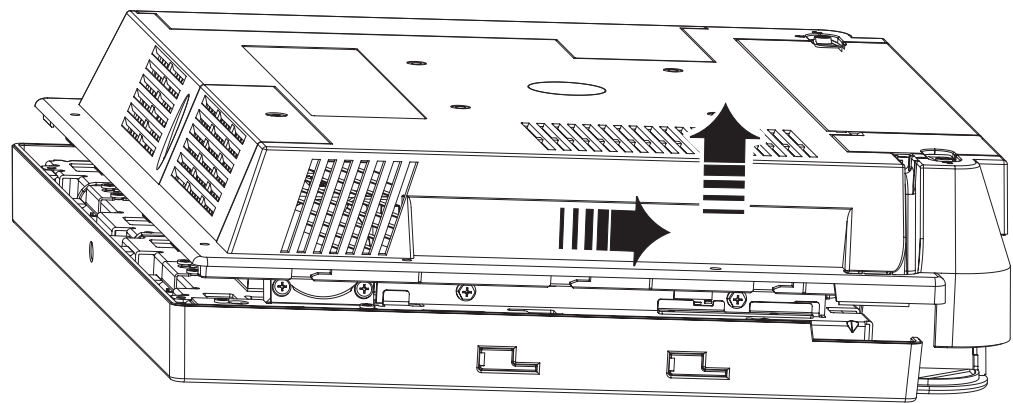

Figure 20. Removing the rear cover
1. Place the unit face down on a steady surface and align the back cover approximately 8 mm (0.3 in) lower than the top cover (see Figure 20).